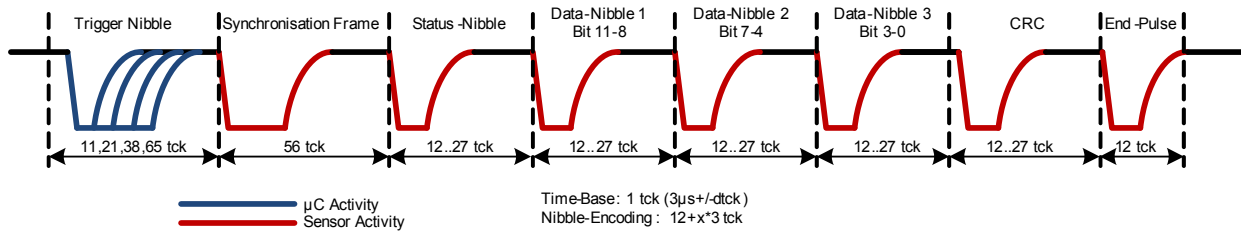

Figure 25 SPC frame example
As in SENT, the time between two consecutive falling edges defines the value of a four bit nibble, thus representing numbers between 0 and 15. The transmission time therefore depends on the transmitted data values. The single edge is defined by a 3 unit time (UT) low pulse on the output, followed by the high time defined in the protocol (nominal values, may vary by tolerance of internal oscillator and influence by external circuitry). All values are multiples of a unit time frame concept. A transfer consists of the following parts (Figure 25):